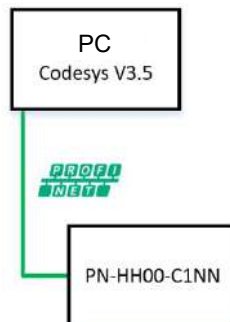

Figure 5-2-17 Communication connection diagram.
1. Communication connection diagram, as shown in the figure 5-2-17 shown.